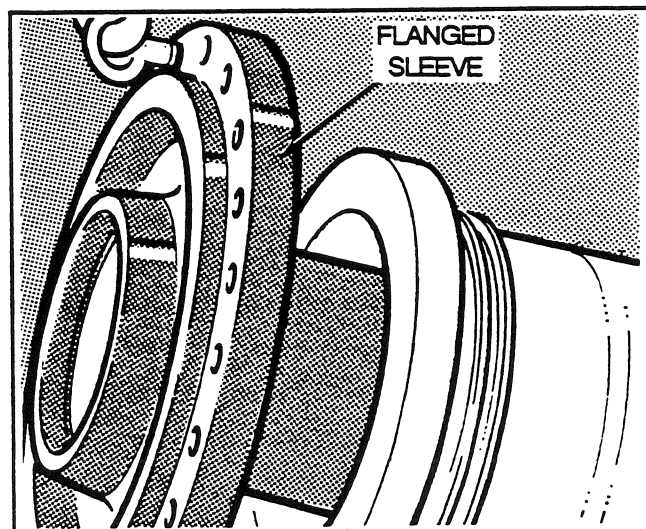

Fig. 7
4. Install a lifting eye in the flanged sleeve. Remove the flanged sleeve using a safe lifting device (see Fig. 7). Remove and discard the inner and outer thrust plates. Remove and discard the seal. Repeat this step for the other flanged sleeve.